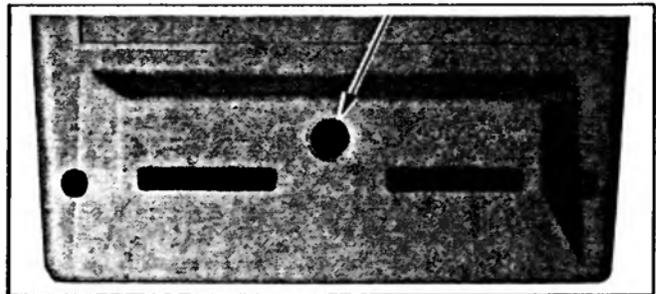

Figure 3-2. Battery Voltage Access Hole
- c. Insert the V - Ω test probe into the access hole as shown in Figure 3-2.